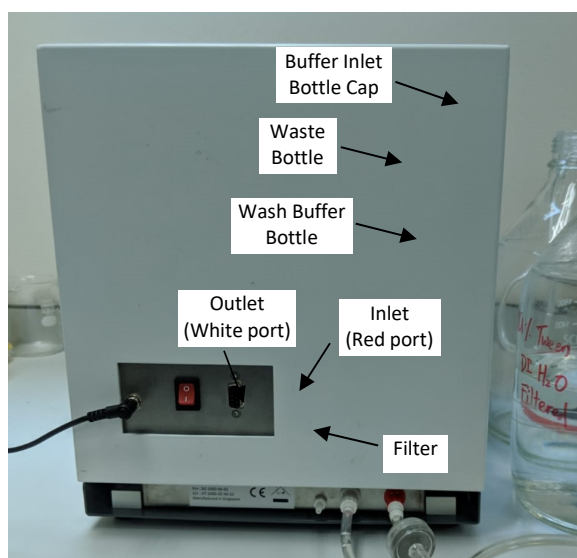

Figure 3-1: Installation Step 3.
4. Install a clean filter onto one end of the inlet tubing and insert into the red port on the HT1000. Insert the other end into wash buffer bottle via the buffer inlet bottle cap. Refer to Figure 3-1.